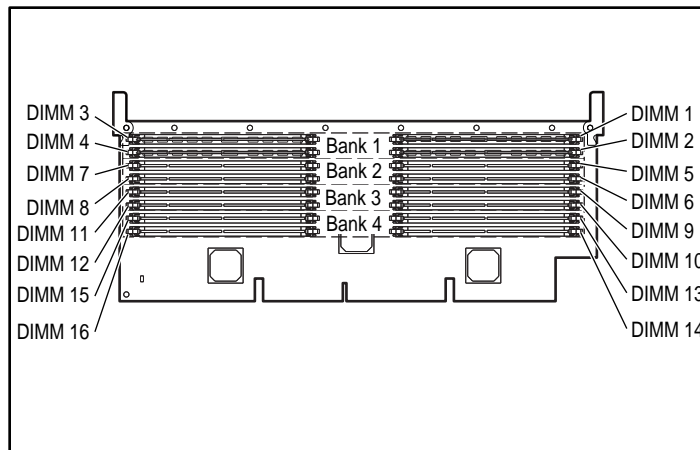

Figure 3-9. Memory expansion board connector and bank assignments
5. Verify that the four DIMMs inserted are all within the same bank by noting the bank boundaries in Figure 3-9.